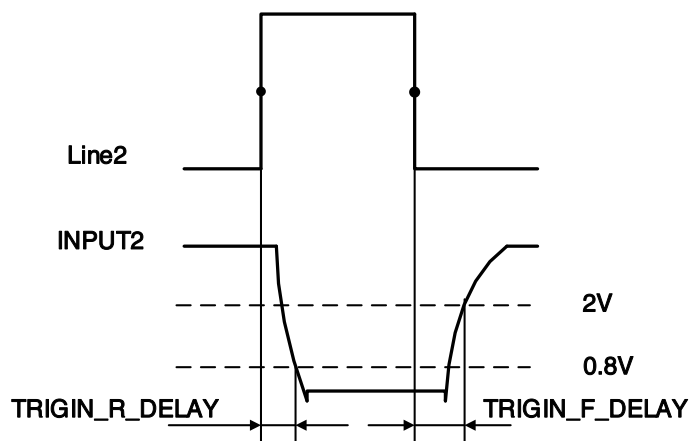

Figure 7-9 Parameter of Line2 input circuit
- Input rising time delay: $<2\mu\text{s}$ ($0^\circ\text{C}\sim 45^\circ\text{C}$), parameter description as shown in Figure 7-9
- Input falling time delay: $<2\mu\text{s}$ ($0^\circ\text{C}\sim 45^\circ\text{C}$), parameter description as shown in Figure 7-9